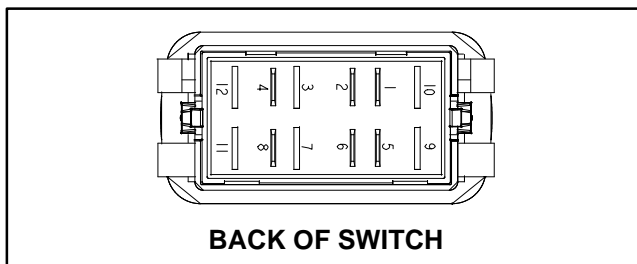

Figure 27
5. The switch terminals are marked as shown in Figure 27. The circuit logic of the lift switch is shown in the chart below. With the use of a multimeter (ohms setting), the switch functions may be tested to determine whether continuity exists between the various terminals for each position. Verify continuity between switch terminals. Replace switch if testing identifies a faulty switch.